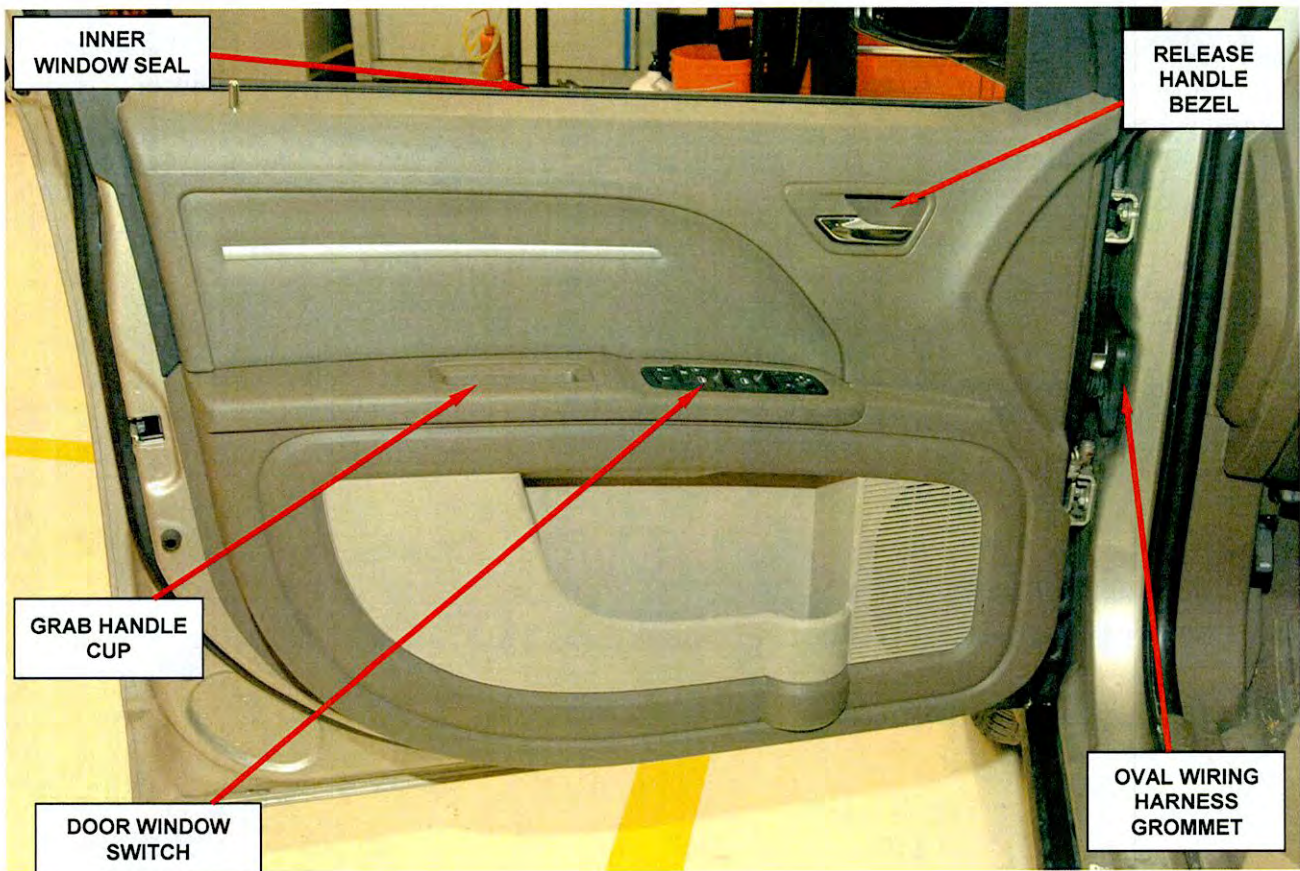

Figure 1 – Left Front Door Panel Shown
4. Remove the front door window switch, grab handle cup, and release handle bezel (Figure 1).
5. Remove the front door panel (Figure 1).
6. Remove the front door inner window seal (Figure 1).
7. Separate the oval wiring harness grommet from the lower “A” pillar (Figure 1).
15. Snap the oval wiring harness grommet into the oval hole on the “A” pillar (Figure 1).
16. Place the door grommet into position and install the two retaining screws (Figure 1).